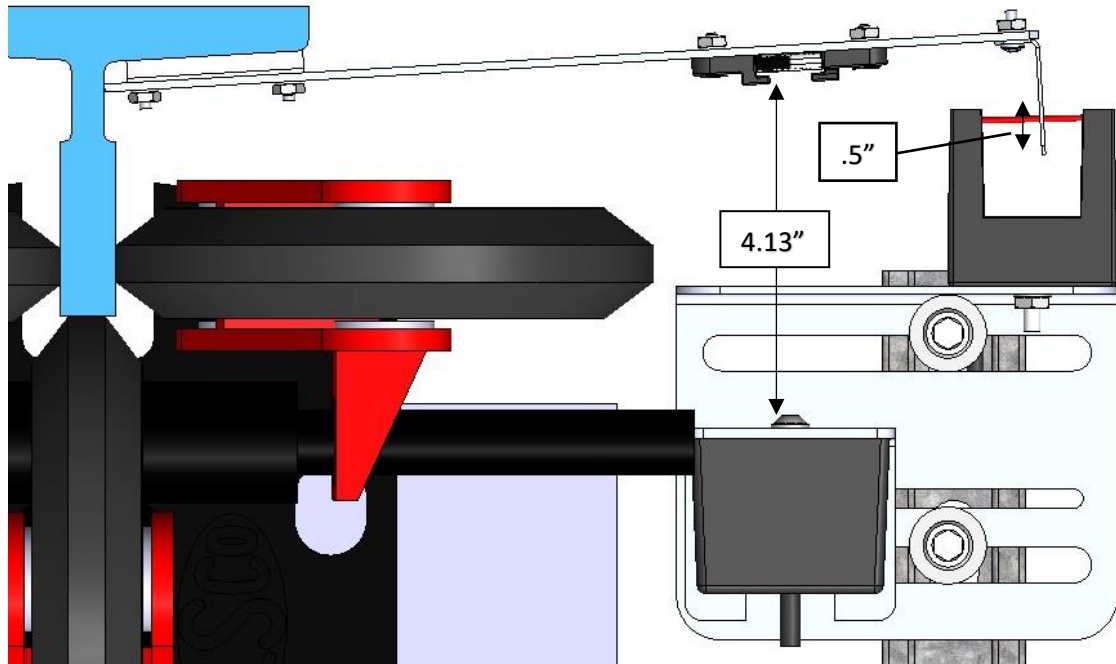

Figure 20: Camera Tuning
- Attach bracket and switch to Unistrut as shown in figure 20.